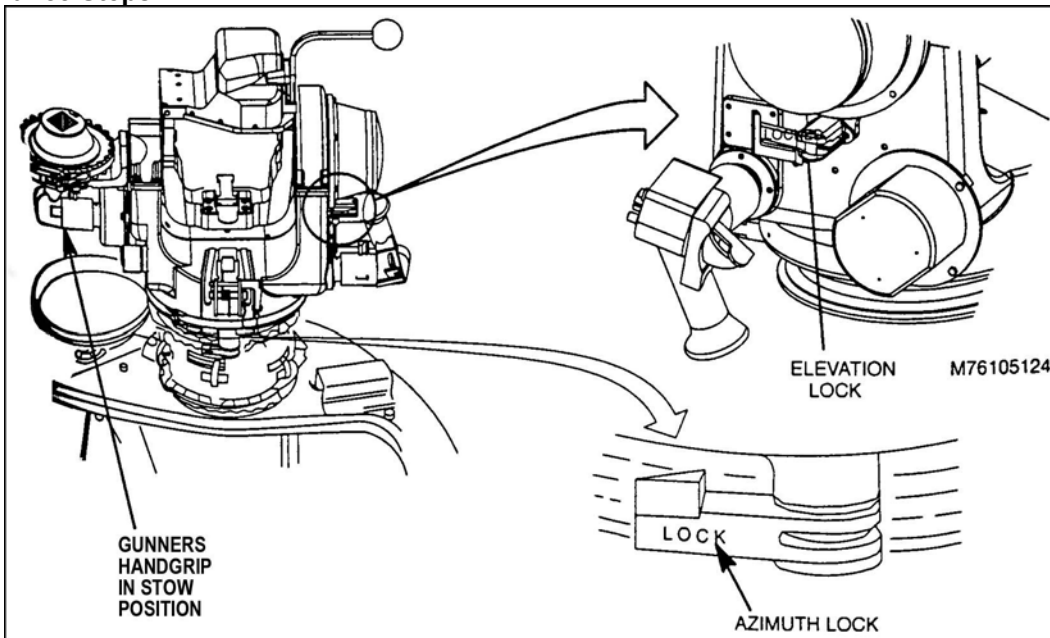

Figure 7. Locking the TU azimuth lock.
h. Rotate gunner's handgrips to the operate position (Figures 7 and 8).